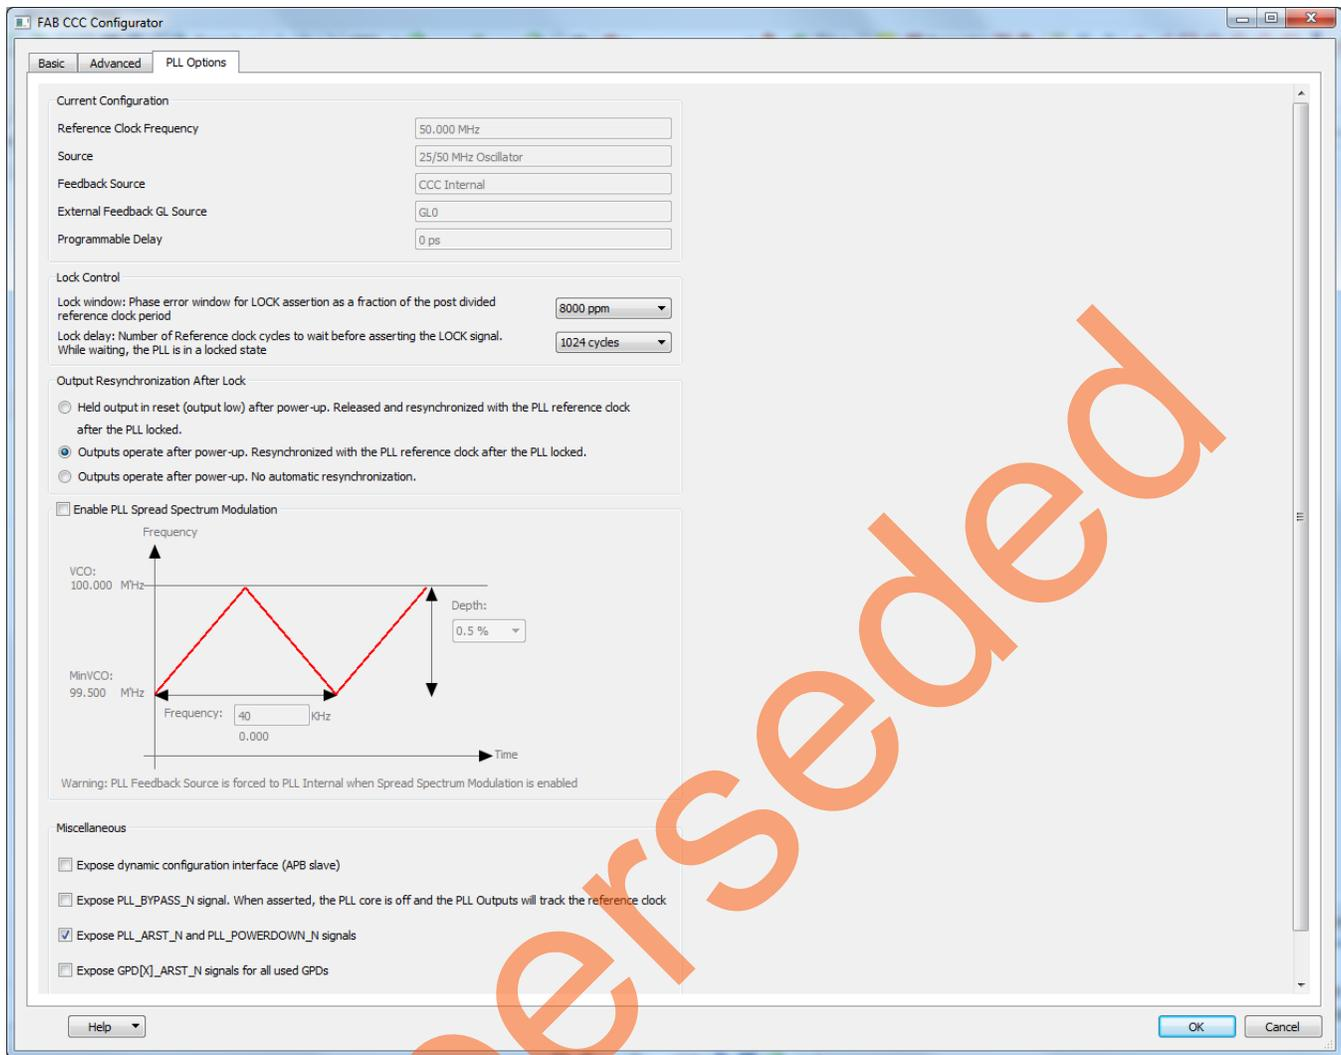

Figure 21. Exposing PLL Reset and Power-down Signals
- Select the **PLL Options** tab and select **Expose PLL_ARST_N** and **PLL_POWERDOWN_N** check box, as shown in Figure 21.